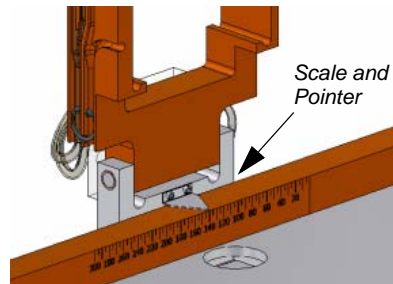

Figure 13. Adjust stroke length to 140 mm using scale and pointer as a guide
7. Push the carriage to 140 mm stroke length position using the scale plate and pointer as a guide (Figure 13).